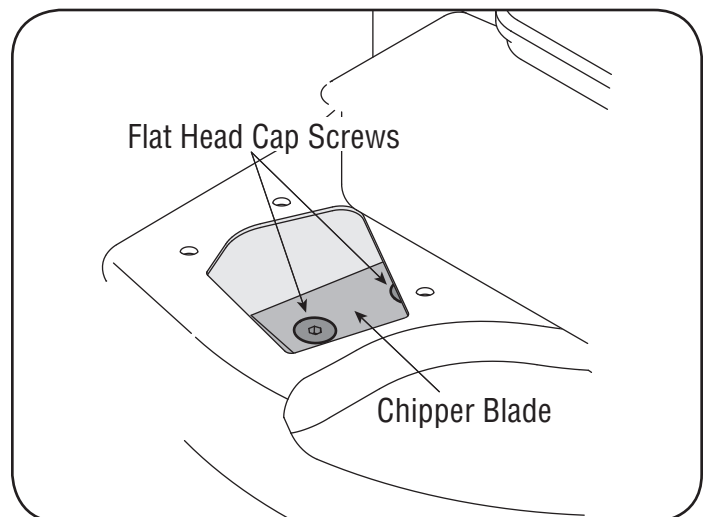

Figure 26
- Using a 3/16" allen wrench, remove the flat head cap screws that hold the chipper blade to the impeller. These screws are accessible through the opening created when the chipper chute was removed earlier. See Figure 26.